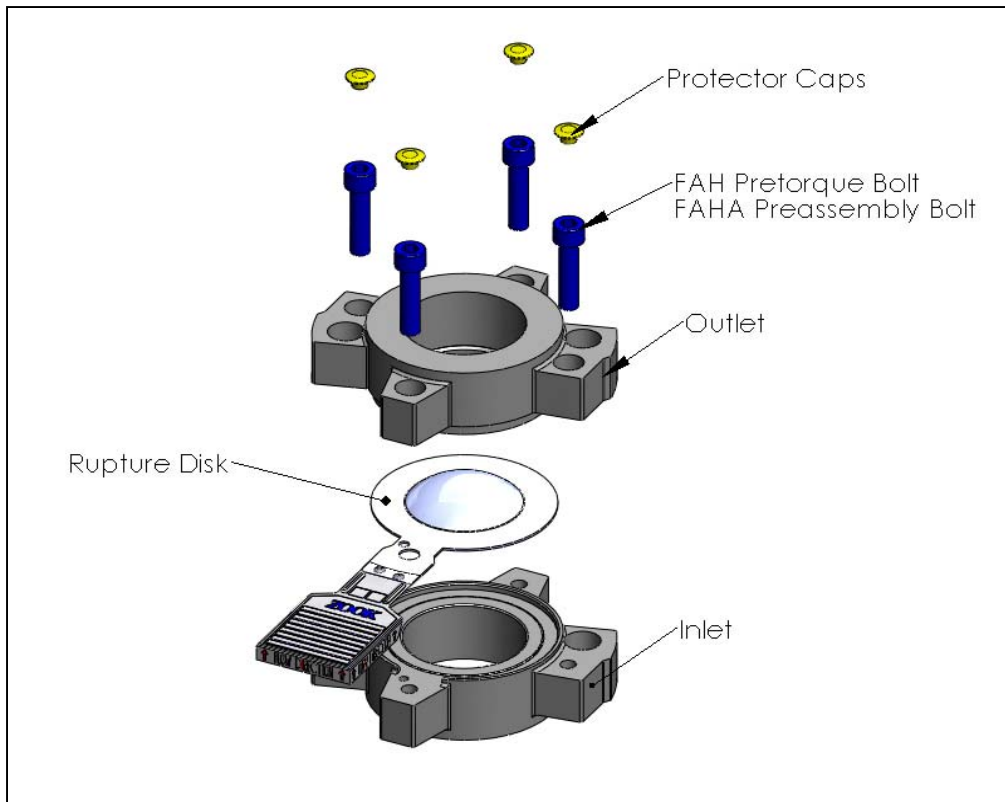

Figure 1 – Type FAH / FAHA
- 1) Fasten the assembly together by reinstalling the pre-assembly capscrews as shown in figure 1. The pre-assembly screws should be snug, NOT wrench-tight. Sealing of the disk is obtained by tightening of the companion flange studs and nuts, NOT via tightening of the pre-assembly bolts.
- 1) Fasten the assembly together by reinstalling the pre-assembly capscrews as shown in figure 1 finger tight before torquing. **High strength** capscrews are supplied with the assembly, **DO NOT SUBSTITUTE**, high strength material is required for correct assembly.
- 3) Using a torque wrench, develop the required torque incrementally in a minimum of four (4) steps in a crisscross pattern. The initial torque should be no more than 25% of the final required torque listed in table #1. After following this sequence, a final tightening should be performed capscrew-to-capscrew to ensure that all capscrews have been evenly torqued.